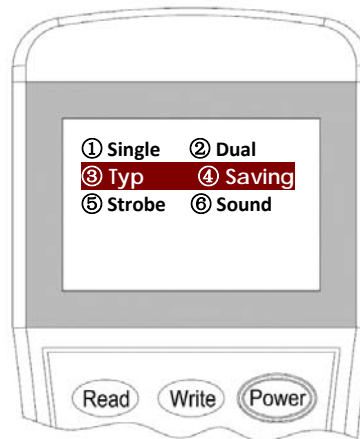

Figure 12
3. Input the **"3"** for **Typical** mode or **"4"** for **Saving** mode then press **"Write"** to change the setting into the desire mode (Figure 12).